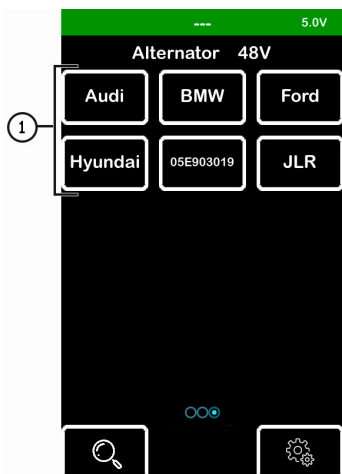

Figure 29
3. Next, open the tester menu and select the 48 V test mode, as well as the vehicle model corresponding to the alternator (see pos. 1, Fig. 29).